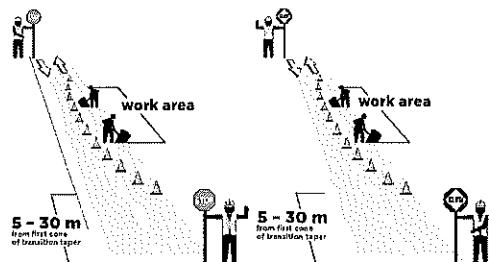

Figure 31-33: Typical Arrangement for Traffic Control Persons (TCPs)
- Traffic control persons (TCPs) using signs (Figure 31-33)